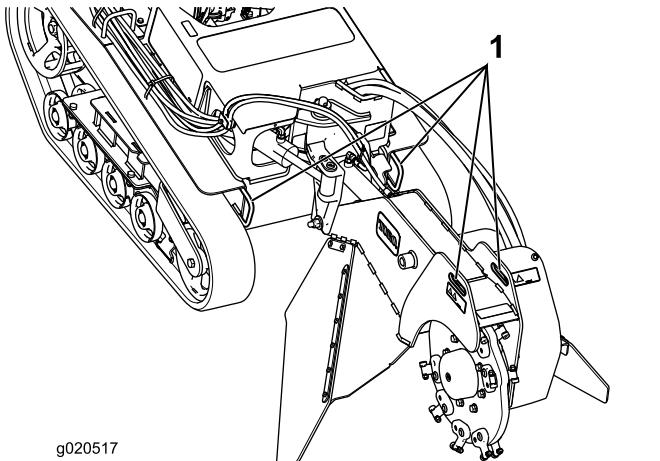
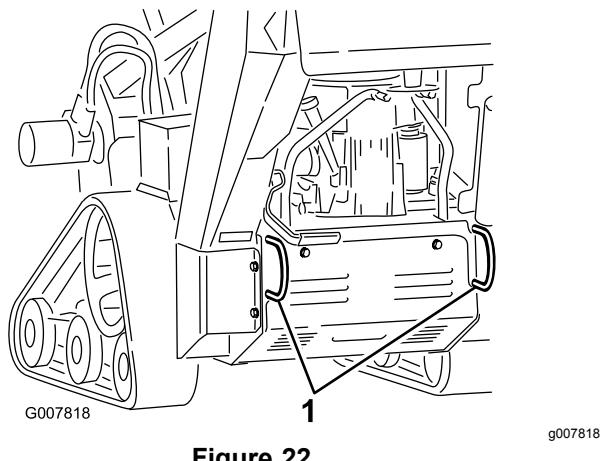

Figure 21
Figure 22
3. Secure the machine to a trailer with chains or straps using the tie-down/lift loops at the front and rear of the machine (Figure 21 and Figure 22). Refer to your local ordinances for trailer and tie-down requirements.
You can lift the machine using the tie-down/lift loops as lift points (Figure 21 and Figure 22).